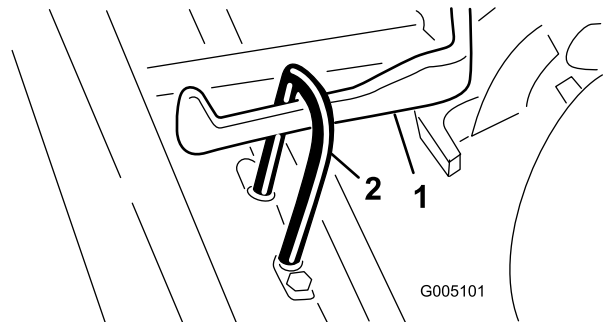

Figure 10
3. Slide the cutting unit under the pull frame while hooking the lift hook onto the lift arm (Figure 10).